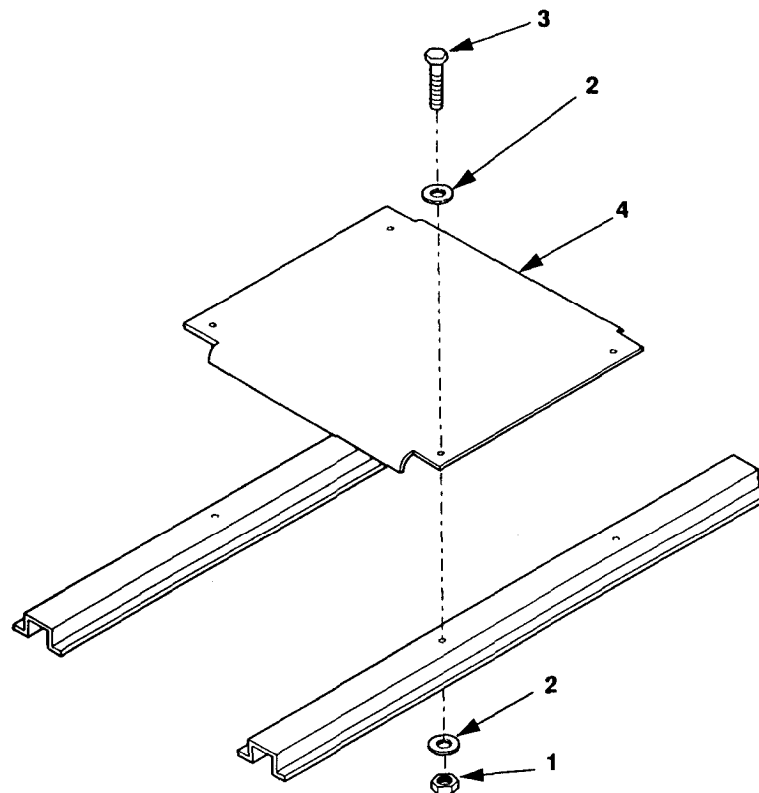

Figure 4-24. PU-797 and AN/MJQ-36 Trailer Platform.
Remove four self-locking nuts (1, figure 4-24), eight flat washers (2), four screws (3), and trailer platform (4).